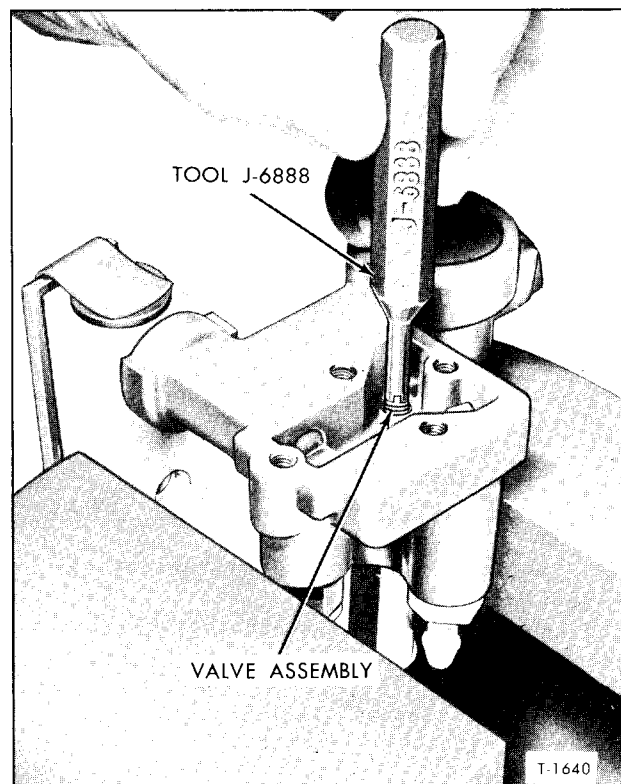

Figure 33—Replacing Valve Core Assemblies
1. Install intake valve core (7) and exhaust valve core (29) in control body (17) with tool J-6888 in manner shown in figure 33. Tighten to torque listed in "Specifications."